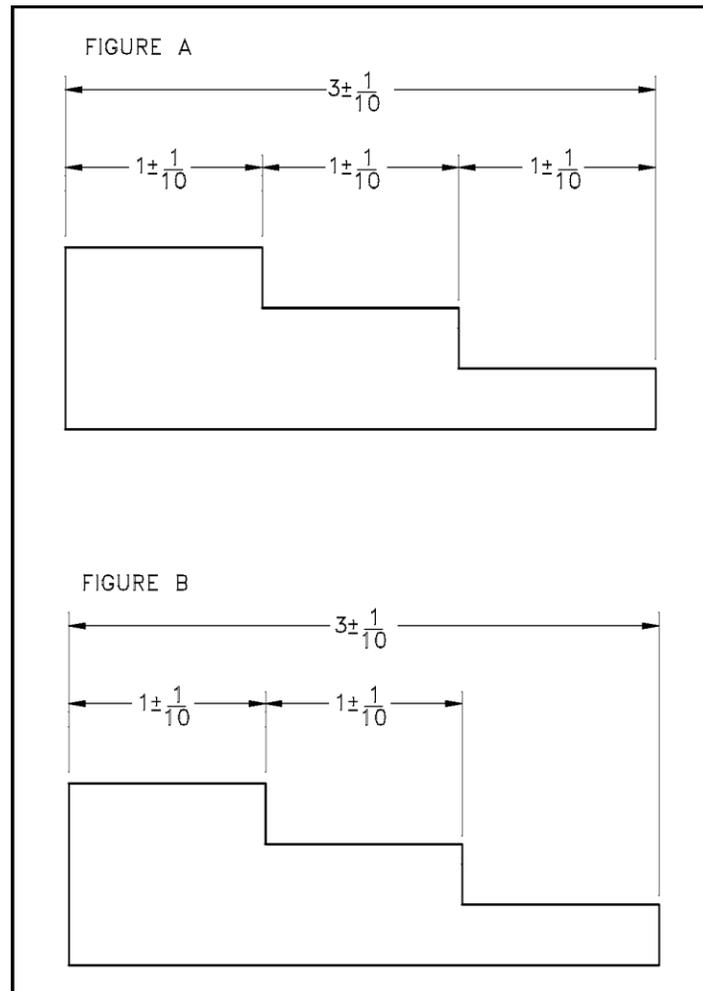

Figure 8 Example of Tolerancing
Because tolerances allow a part or the placement of a part or feature to vary or have a range, all of an object's dimensions cannot be specified. This allows the unspecified, and therefore non-toleranced, dimension to absorb the errors in the critical dimensions. As illustrated in Figure 8 (A) for example, all of the internal dimensions plus each dimension's maximum tolerance adds up to more than the specified overall dimension and its maximum tolerance. In this case the length of each step plus its maximum tolerance is $1 \frac{1}{10}$ inches, for a maximum object length of $3 \frac{3}{10}$ inches. However the drawing also specifies that the total length of the object cannot exceed $3 \frac{1}{10}$ inches. A drawing dimensioned in this manner is not correct, and one of the following changes must be made if the part is to be correctly manufactured.
To prevent this type of conflict, the designer must either specify different tolerances for each of the dimensions so that the length of each smaller dimension plus its maximum error adds up to a value within the overall dimension plus its tolerance, or leave one of the dimensions off, as illustrated in Figure 8 (B) (the preferred method).